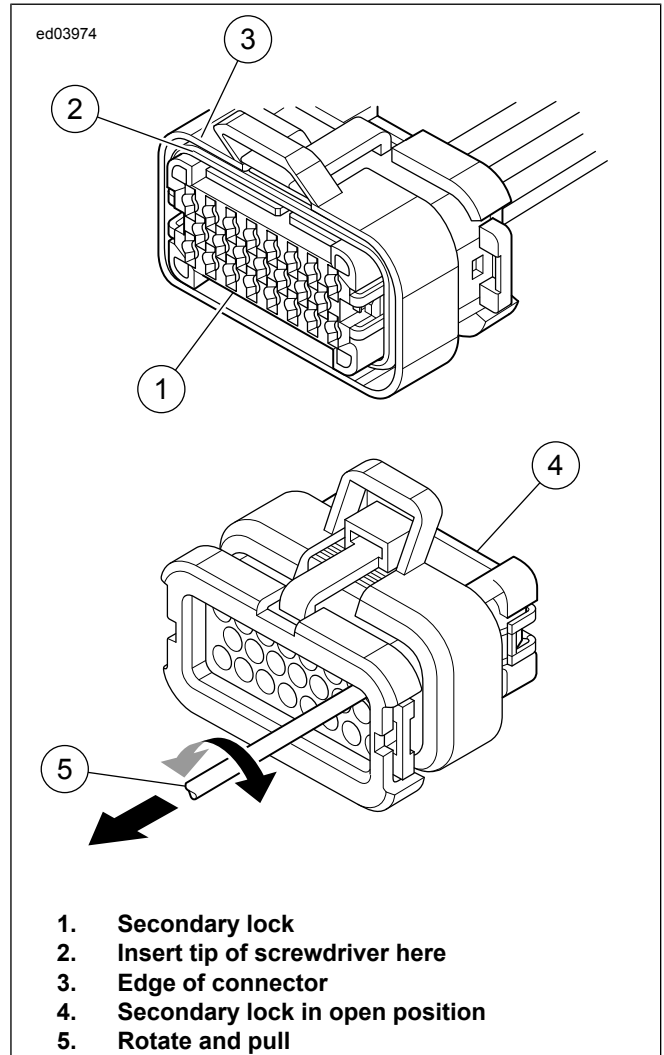

Figure B-40. Terminal Removal
- a. See Figure B-40. Insert the tip of a screwdriver having a blade between 0.078 –0.196 in (2–5 mm) wide between the edge of the plug assembly housing and one corner of the secondary lock.